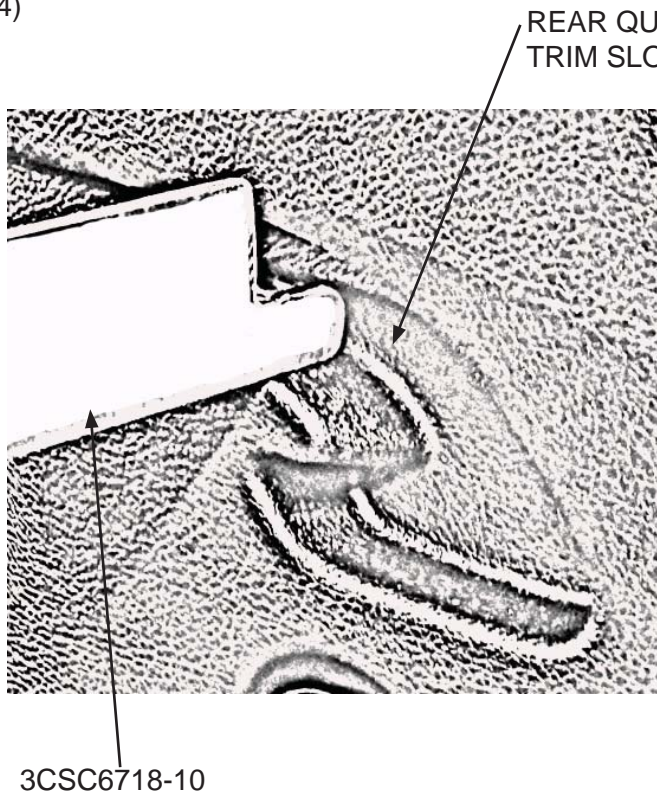
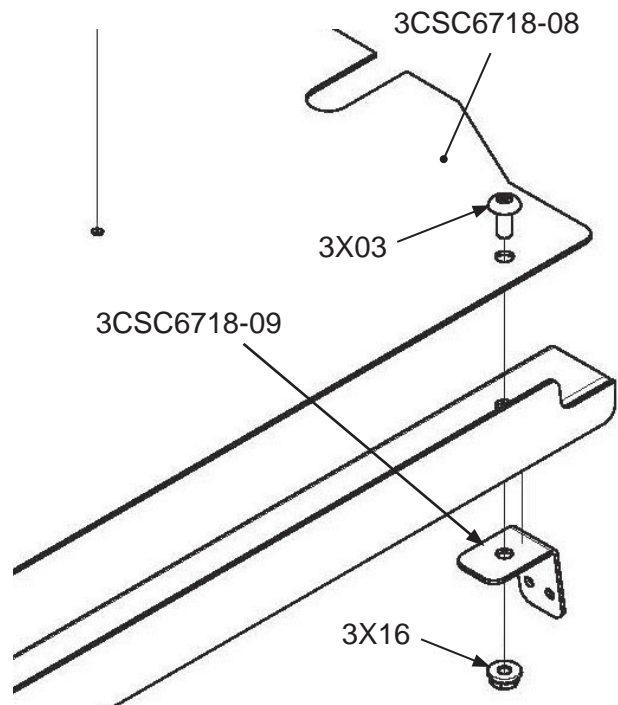

Fig. 3
Fig. 4
A. Locate rear cross member bracket 3CSC6718-10 by inserting into cargo rear quarter trim slots (Fig 3). Set cover panels 3CSC6718-07 and 3CSC6718-08 onto barrier, center and rear brackets. Align cover and rear cross member holes and assemble cover support bracket 3CSC6718-09 using 3X03 screw and 3X16 nut. (Fig. 4)